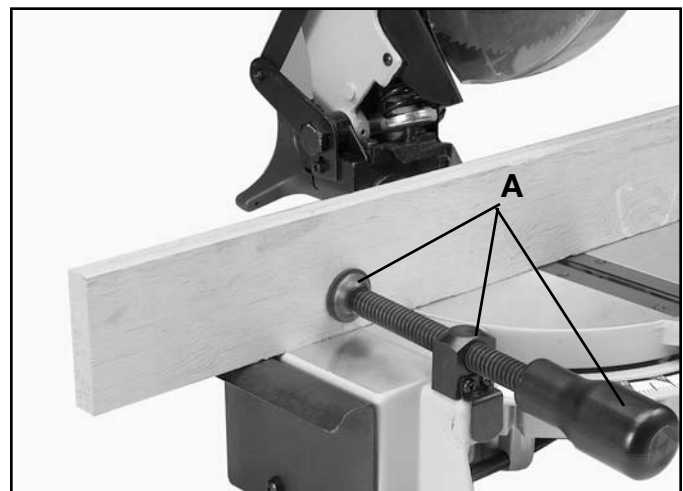

Fig. 35
3. Place the workpiece on the table and clamp it firmly against the fence. Fig. 35, illustrates the standard equipment work clamp (A) being used to clamp a workpiece to the fence. The clamp (A) can also be used on the right side of the machine.
5. **⚠ WARNING:** If the workpiece you are cutting would cause your hand to be within the hazard zone of the saw blade, the workpiece should be clamped in place before making cut. See Fig. 35.